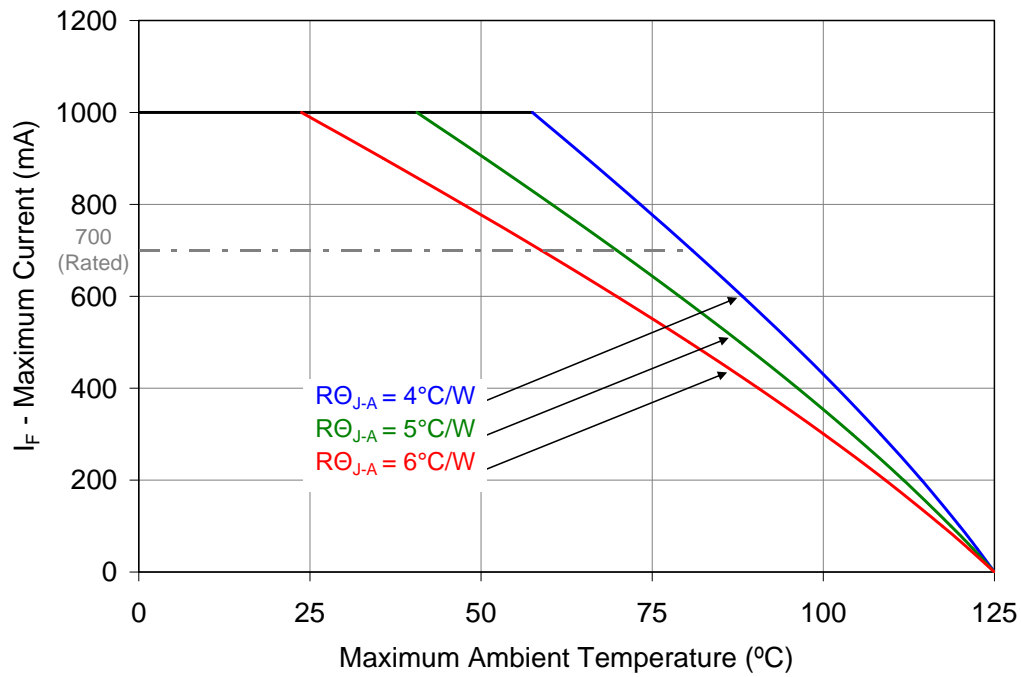

Figure 10: Maximum forward current vs. ambient temperature based on  $T_{J(\text{MAX})} = 125^{\circ}\text{C}$ .
- Maximum DC forward current is determined by the overall thermal resistance and ambient temperature. Follow the curves in Figure 10 for current derating.
Notes for Figure 10: